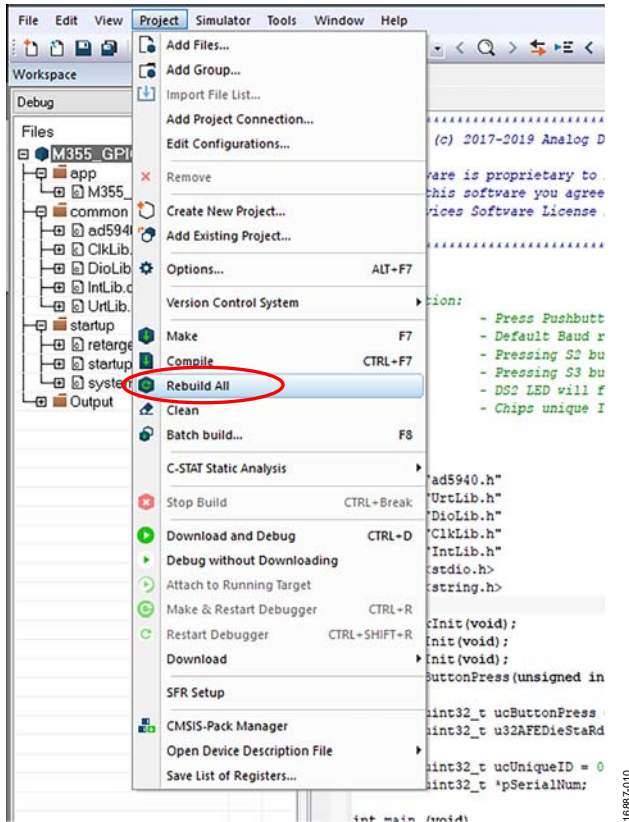

Figure 10. Project > Rebuild All
1. In the IAR Embedded Workbench window, navigate to **Project > Rebuild All** (see Figure 10).